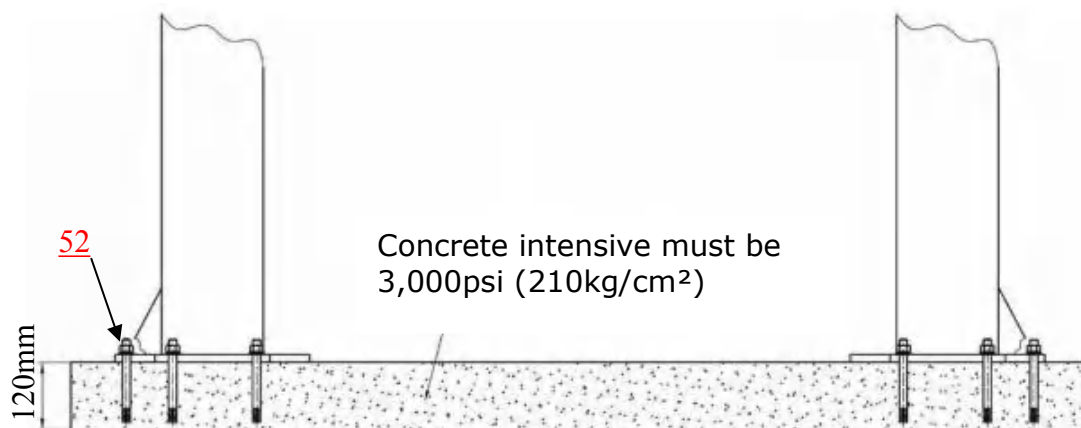

Fig.7
D. SPECIFICATIONS OF CONCRETE (See Fig. 7)